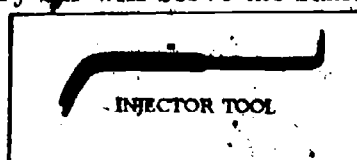

Fig 1-10. Tools for removing injectors.
- (2) A special puller, the injector tool (fig 1-10), designed for removing injector units from the Detroit diesel engine, is often discarded by inexperienced mechanics. However, a roll head pry bar will serve the same purpose.